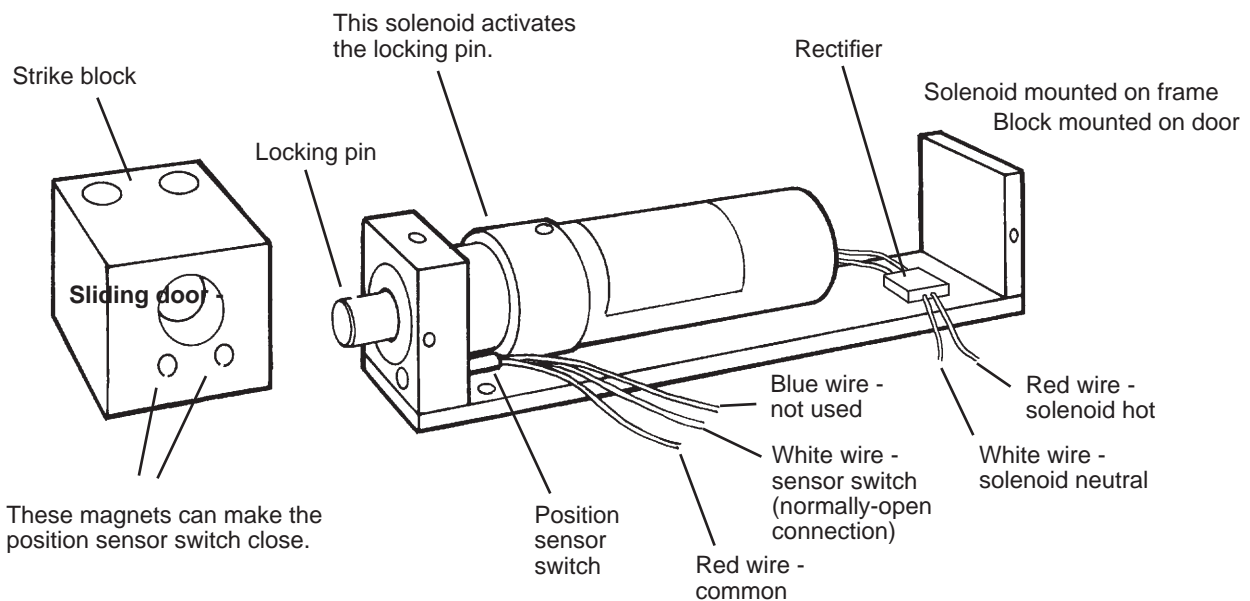

Fig. 2-10 – Interlock Unit
- Figure 2-10 shows one of the interlock units. The locking pin is moved in and out by a solenoid. Below the locking pin, the unit has a position sensing switch. The unit also includes a matching strike block.